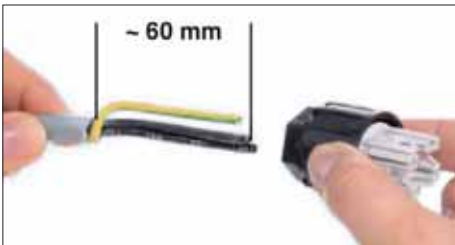

fig. 1
- 7) Connect mains luminaire cable **C** leads and mains supply cable **I** leads to the provided separate connector as shown in fig. 1 to fig. 4